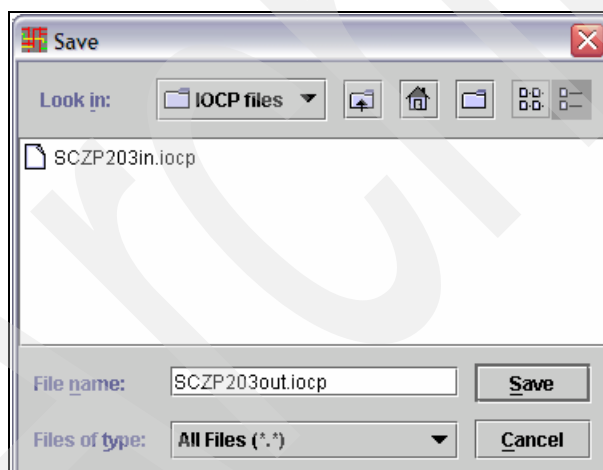

Figure 6-32 CMT - Save IOCP output file
2. Enter File name and location for the IOCP output file and click **Save** (Figure 6-32).